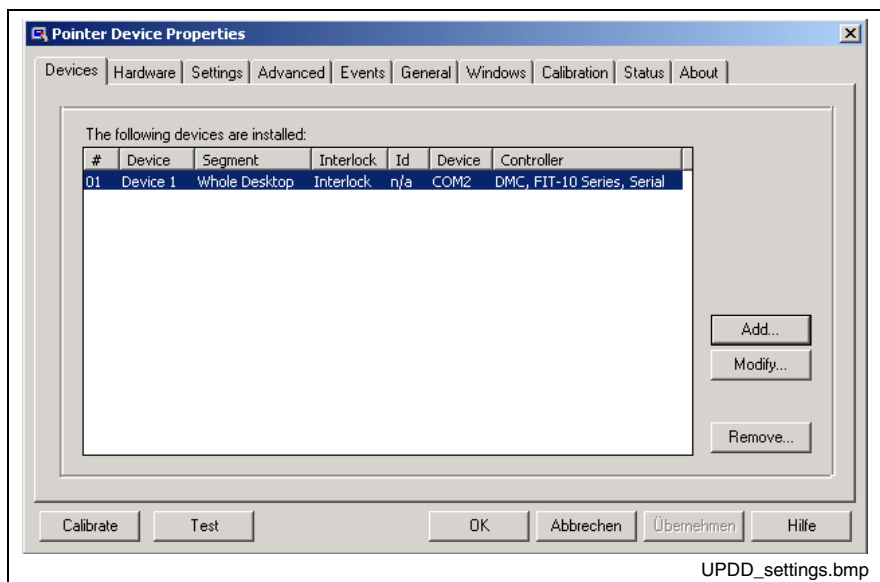

Fig. 9-11: Dialog window to set the touch screen
- Fig. 9-11: Dialog window to set the touch screen 9-11